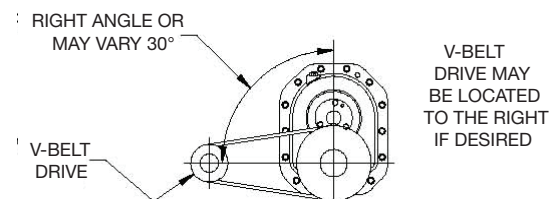

Figure 3 - Angle of V-Drive
5. Install motor and V-belt drive so belt pull will approximately be at right angles to the center line between driven and input shaft (Figure 3). This will permit tightening the V-belt drive with the TORQUE-ARM.